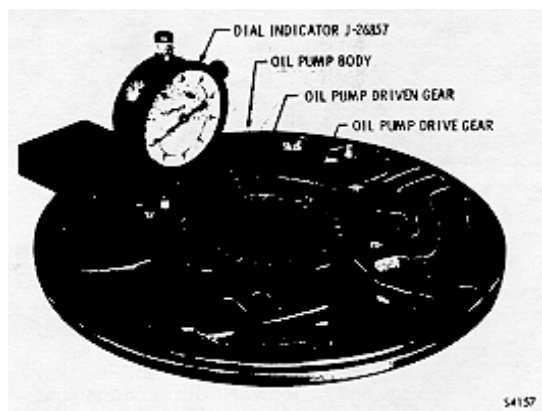

Fig. 6-33. Dial indicator check of oil pump body surface
(10) Position oil pump body assembly 6 (B, foldout 5), flat side upward. Install drive gear 10 into the pump body assembly 6, so the internal tangs of the gear are away from bushing 7. Locate diamond mark on the side of gear 9. Install gear 9, diamond side down, into pump body 6.
(11) Position dial indicator J-26857 on the pump body as shown in figure 6-33. Zero the dial while the stylus (plunger) is contacting body face.